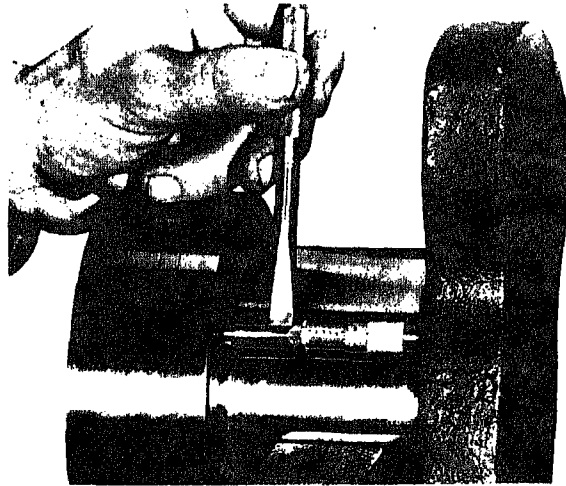

Fig. 1-4-2. Checking thrust flange for wear
2. Measure crankshaft journals with micrometers. See Fig. 1-4-2 or 1-4-4 and Table 1-4-1.
1. Carefully examine crankshaft thrust flange at No. 7 bearing (No. 5 on 4 cylinder engines), Fig. 1-4-2. If surface is scored or scratched, flange should be reground to oversize thrust rings.